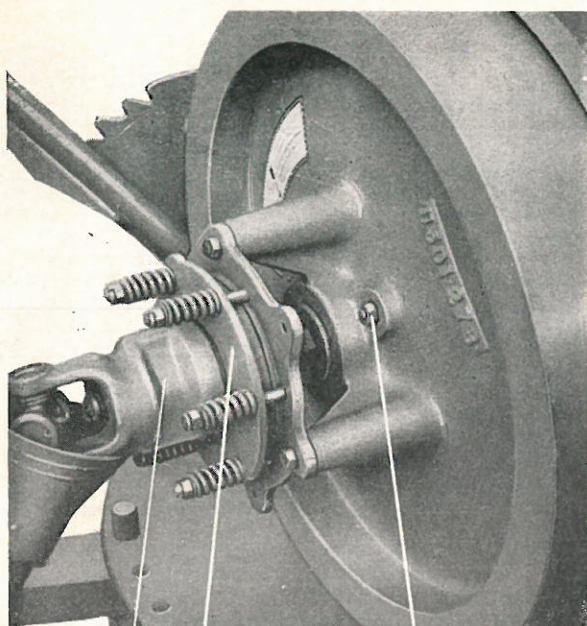

Fig. 27 A
Flywheel Shear Bolt (Fig. 27 (A))